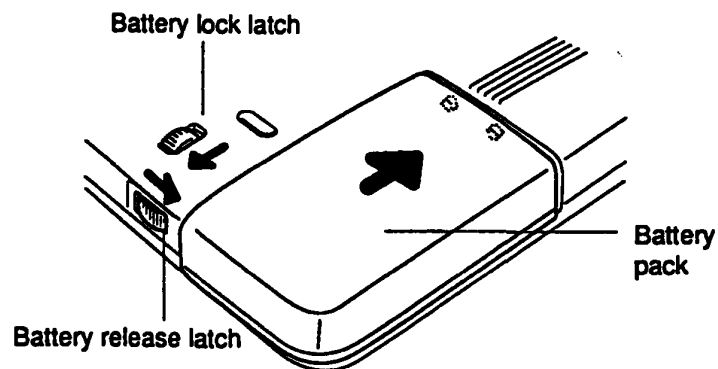

Figure 4-4 Setting the Battery Pack Latches
2. Slide the **battery release latch** back into place (Figure 4-4).
3. Push the **battery lock latch** to the lock position (Figure 4-4).